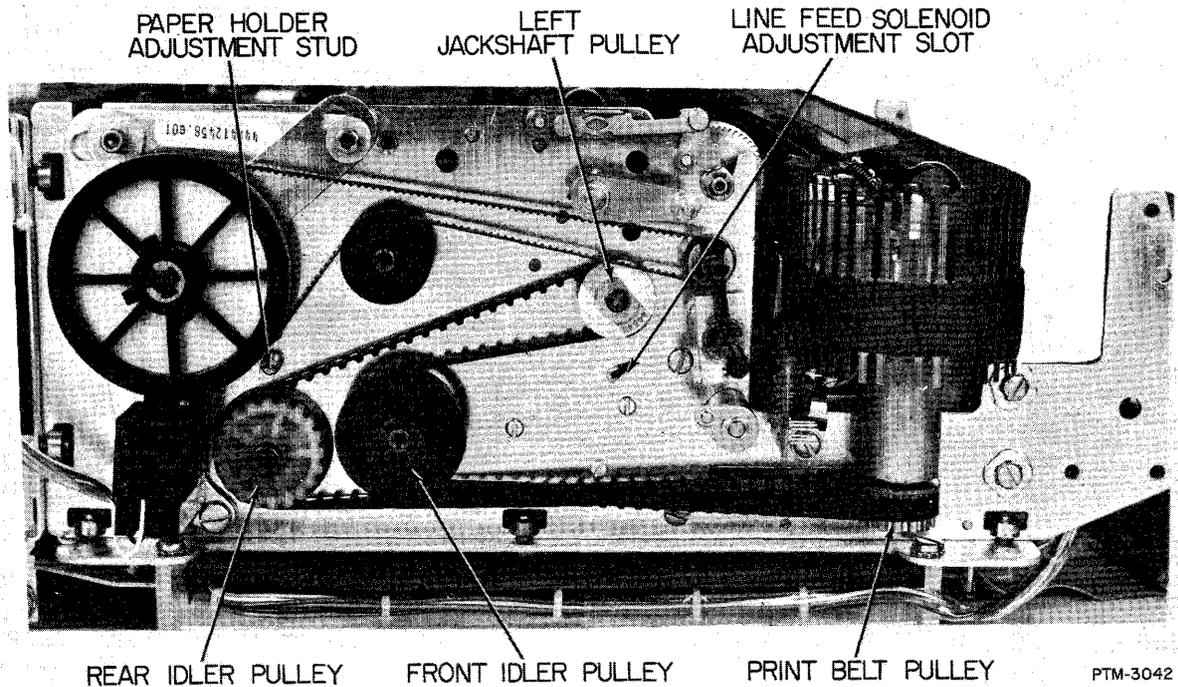

Figure 5-16. Left Drive Belts and Pulleys.
- d. To reinstall, mount drive belt as shown in Figure 5-16.